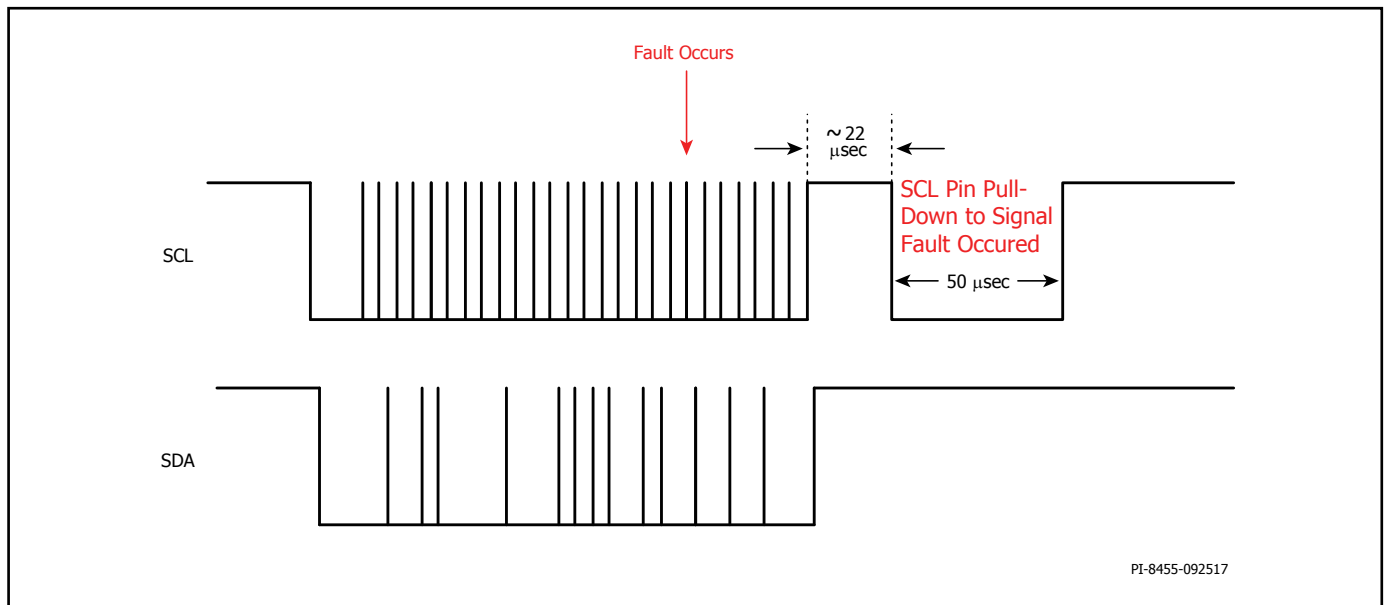

Figure 20. Interrupt Mask During Active I2C Transaction.
2. When the SCL pin is busy (active I2C transaction) (see Figure 20), the fault interrupt will wait for the I2C transaction to be completed, wait ~22 μsec and then pull down the SCL line for 50 μsec (minimum) then releases it back to HI State.